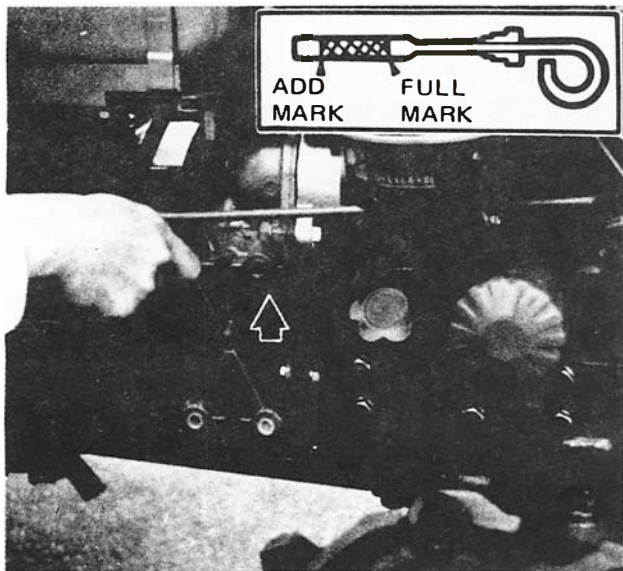

Figure 24 – Engine Oil Level Dipstick
1. With the tractor standing level, and after the engine has been stopped for a period of time, check the oil level with the dipstick, Figure 24.